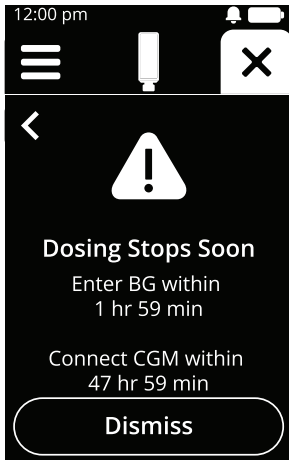
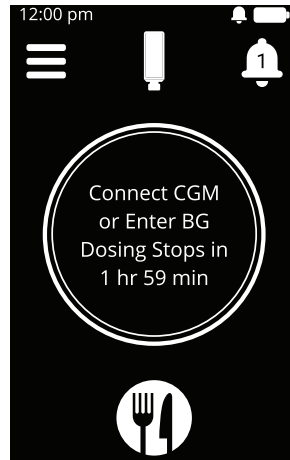

Figure 84
Figure 85
- a. When your CGM is offline for an extended time, the “Dosing Stops Soon” alert will appear (see Figure 84). Connect to a CGM or enter a BG to avoid insulin suspension. Both the home screen (see Figure 85) and alert screen will provide the time remaining until insulin is suspended. The alert screen will show the time remaining to enter a BG to avoid insulin suspension as well as the time remaining until the iLet System must receive a CGM value to continue dosing.